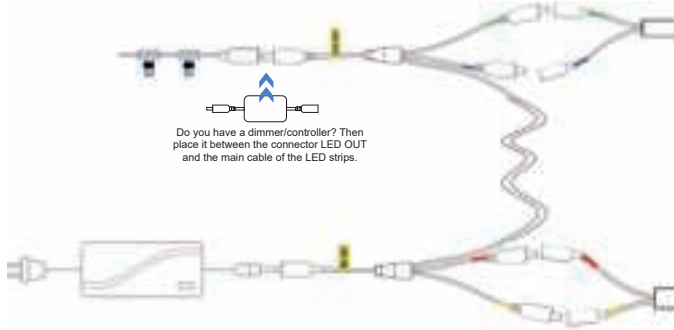

Fig. 5
- At the top of the stairs, connect the 'LED OUT connector of the sensor cable to the main cable of the Led strips (see Fig. 5). Finally, connect the 'AD IN' plug to the adapter.**